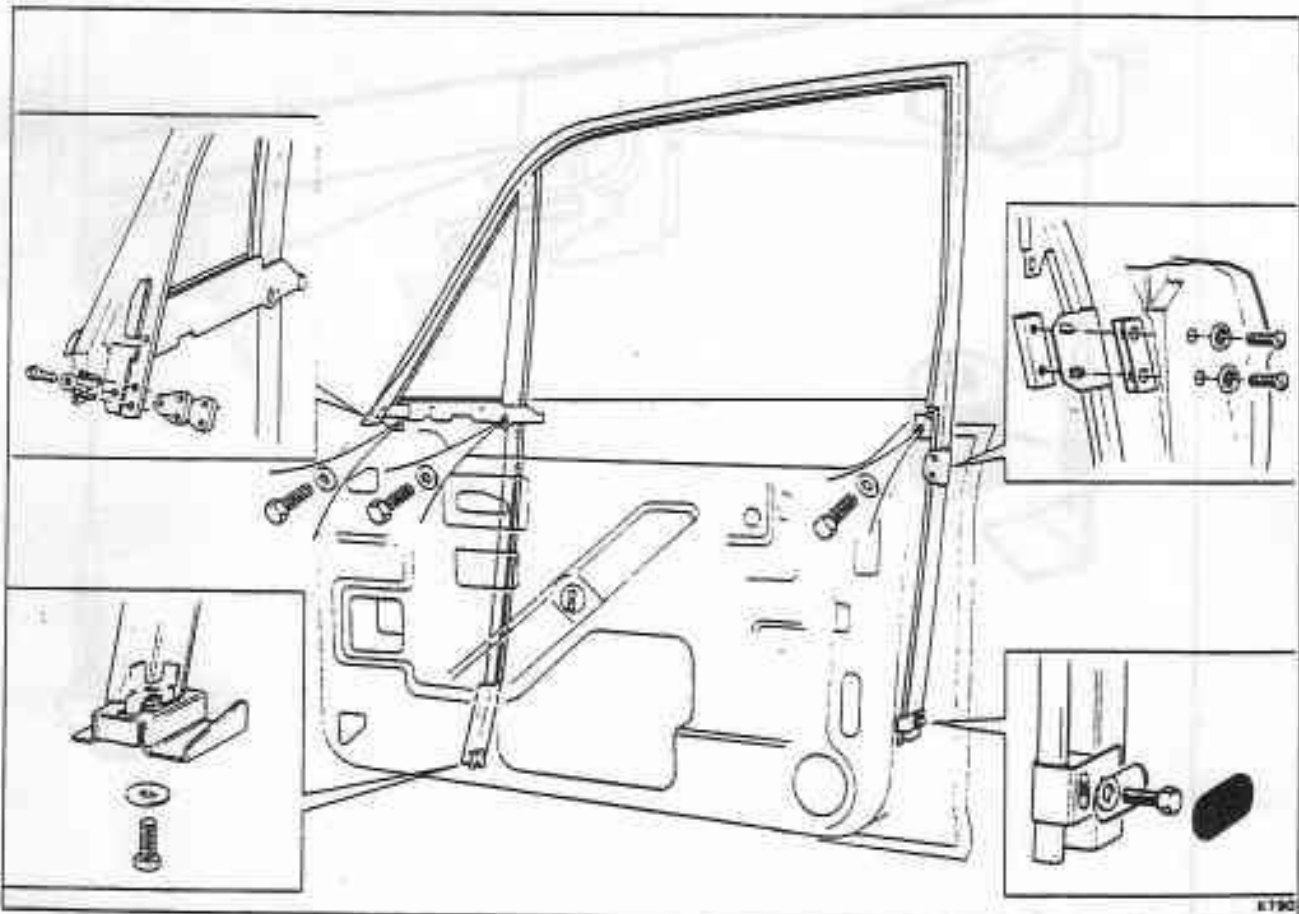

Fig. S3-10 Window frame fixing and adjustment points
8. Remove all the frame securing bolts. Note the positions of all bolts, screws, spacers, etc., for easier assembly (see fig. S3-10).
Window frame and seals - To fit and adjust (see figs. S3-10 and S3-11)
- c. The countersunk screws and special washers on the rear of the door. Note that two sizes of shim are available (see fig. S3-10).
If required, modification kits are available to strengthen the window frames. The modification consists of welding stainless steel plates to the frame. This produces a more rigid fixing of the type shown in figure S3-10.